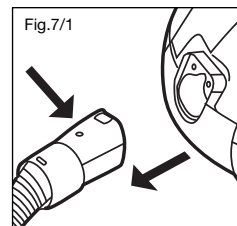

Fig.7/1
2. The flexible hose can be disconnected from the vacuum cleaner by pushing in the button on the hose and pulling away from the machine. (Fig.7/1). Remove any blockages found then reconnect the hose securely.